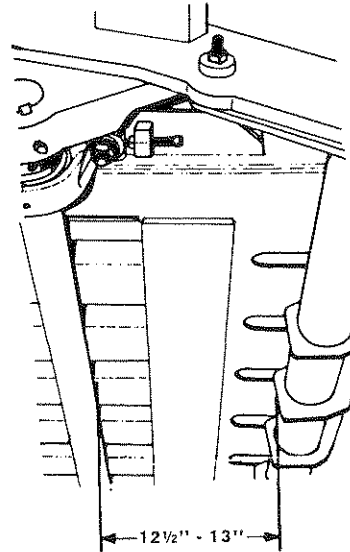

Fig. 45
12. Measure from rear side of feed fork crankshaft to front side of feed fork tine mounting tube, see **Fig. 45**. When the feed fork is at its highest point of travel in the chamber, the measurement should be 12 1/2" to 13" when switch arm roller is on the high part of the cam.